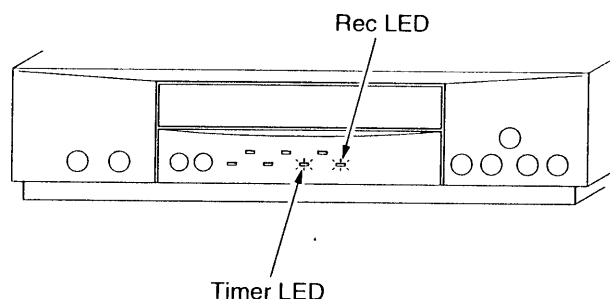

Fig. 21 - Simplified Fault Finding Data
2. The failure code will be displayed as shown in Fig. 21. Refer to Fig. 22 to determine the cause of failure. ■